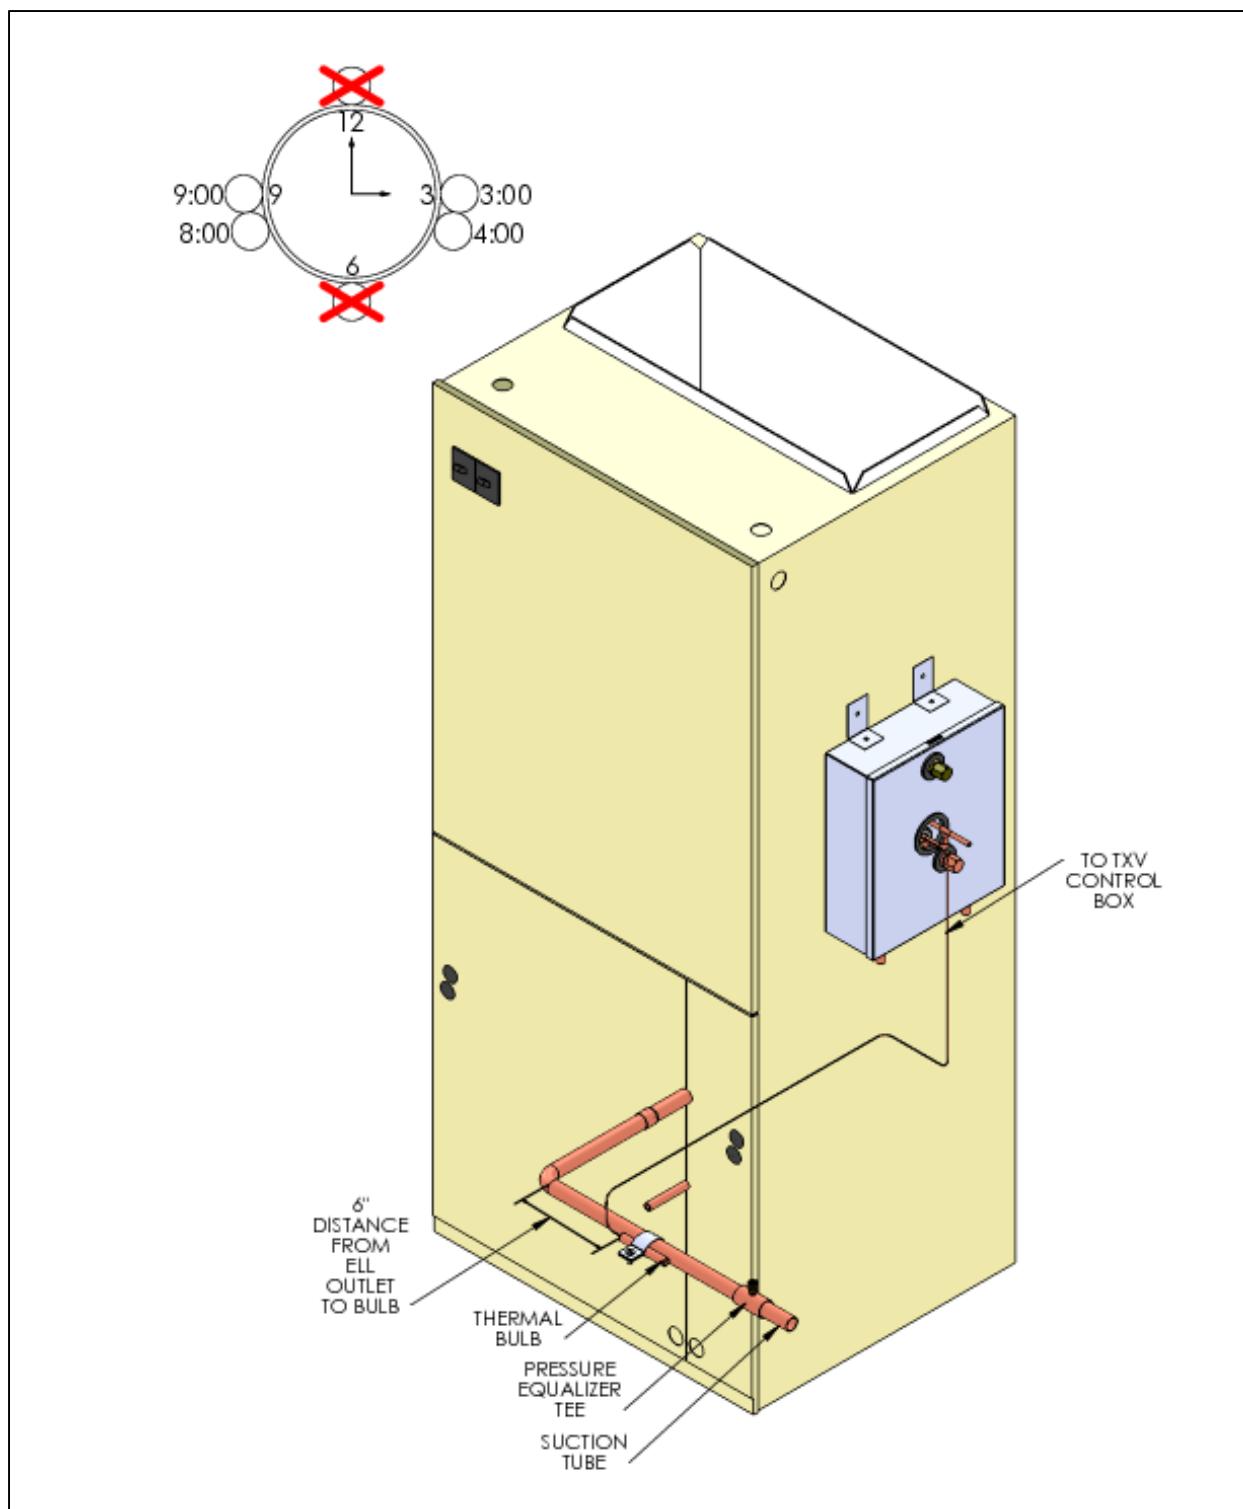

Figure 10. Thermal Bulb Positioning
Step 3: The **Thermal Bulb** must be positioned and clamped to the suction tube 6 inches downstream from the 90° elbow as shown in the example illustrated in Figure 10. The **Thermal Bulb and suction tube must be horizontal** regardless of the air handler application (vertical or horizontal).
The Thermal Bulb must be positioned at the 3:00, 4:00, 8:00 or 9:00 positions on the suction tube as illustrated in Figure 10.